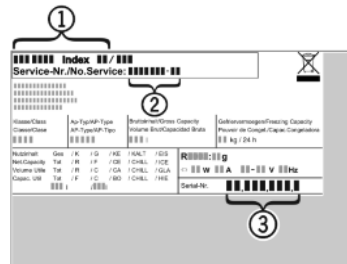

Fig. 10
- Notify a qualified service provider, specifying the fault, appliance designation Fig. 10 (1), service no. Fig. 10 (2) and serial Fig. 10 (3) no.